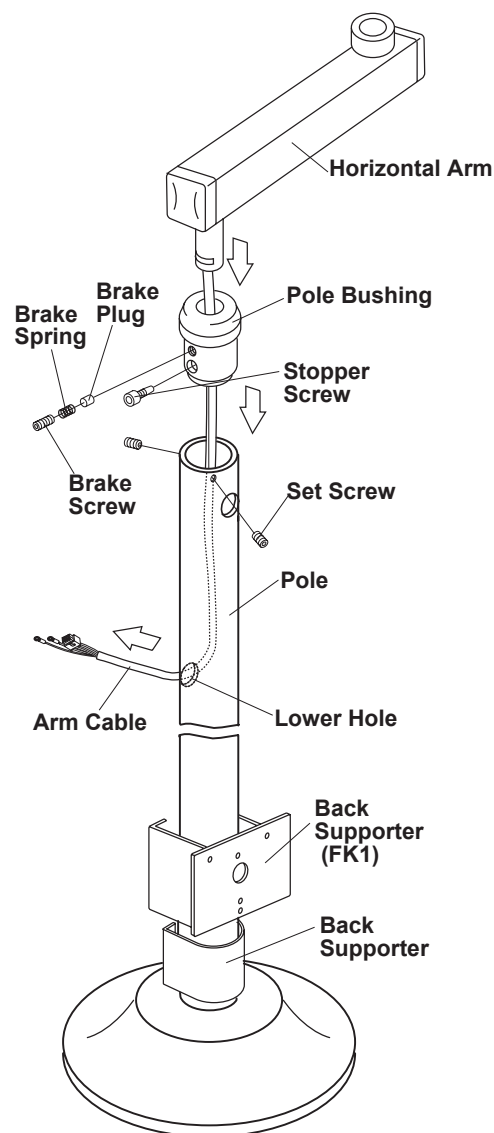

Fig.3-3 Horizontal Arm Installation
1. Remove 2 set screws on the pole and remove the pole bushing. **(Fig.3-3)**
2. Insert the horizontal arm into the pole bushing then set stopper screw and brake plug, brake spring and brake screw on the pole bushing. **(Fig.3-3)**
3. After putting the back supporters to the pole, insert the pole bushing and horizontal arm into the pole with passing through the arm cable into the lower hole on the pole then fix the pole bush with 2 set screws. **(Fig.3-3)**